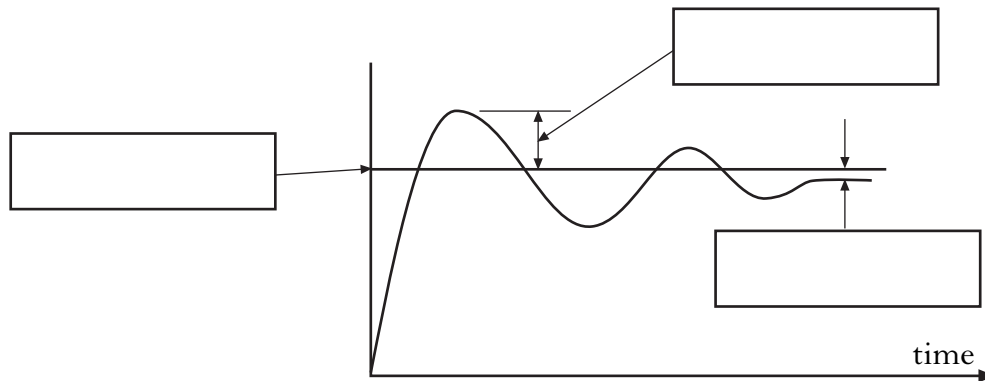

Figure Q8(a)
- (a) Complete Figure Q8(a) by entering, in the spaces provided, the appropriate label from the list below: